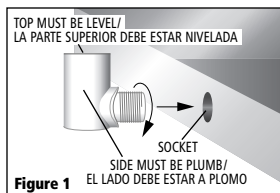

Figure 1
1. Screw Street Ell into overflow outlet on drain pan. Top of Ell **MUST BE PLUMB. (Fig. 1).**